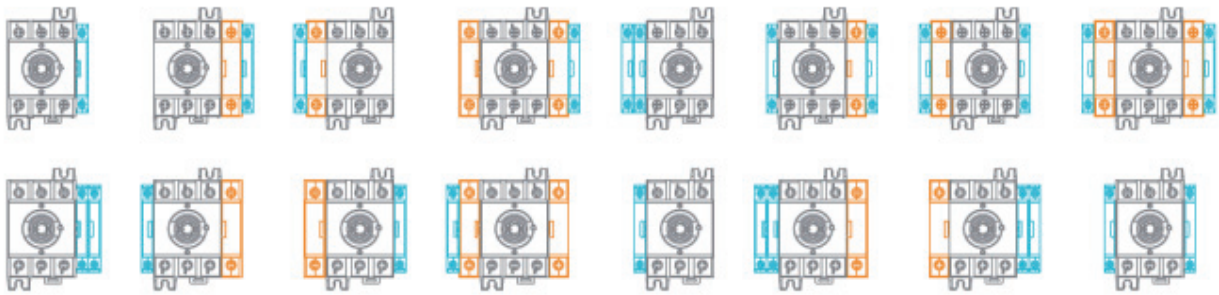

Figure 30 Schematic diagram of accessory pole/auxiliary contact matching
7.2.5 Additional auxiliary contact/additional fourth pole installation: as shown in Figure 30,31